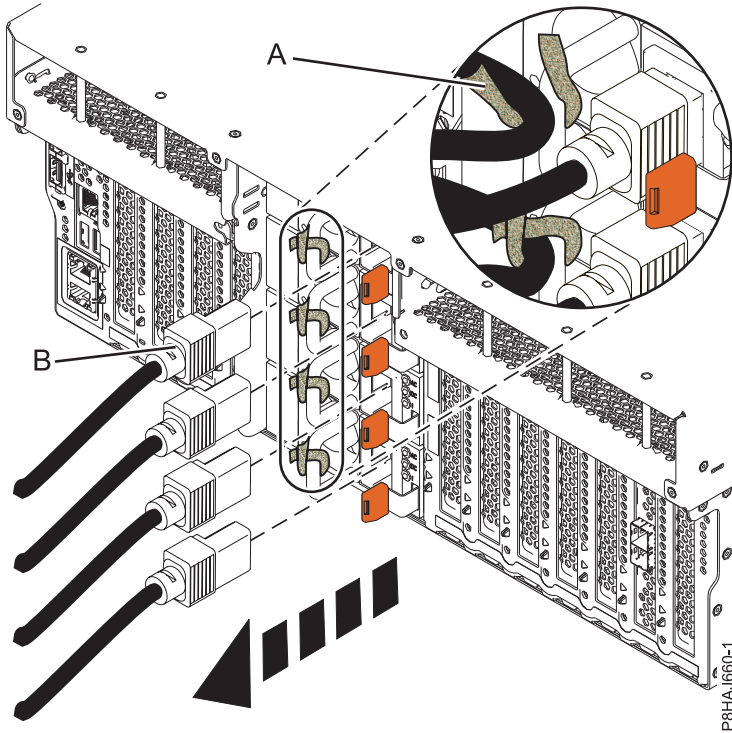
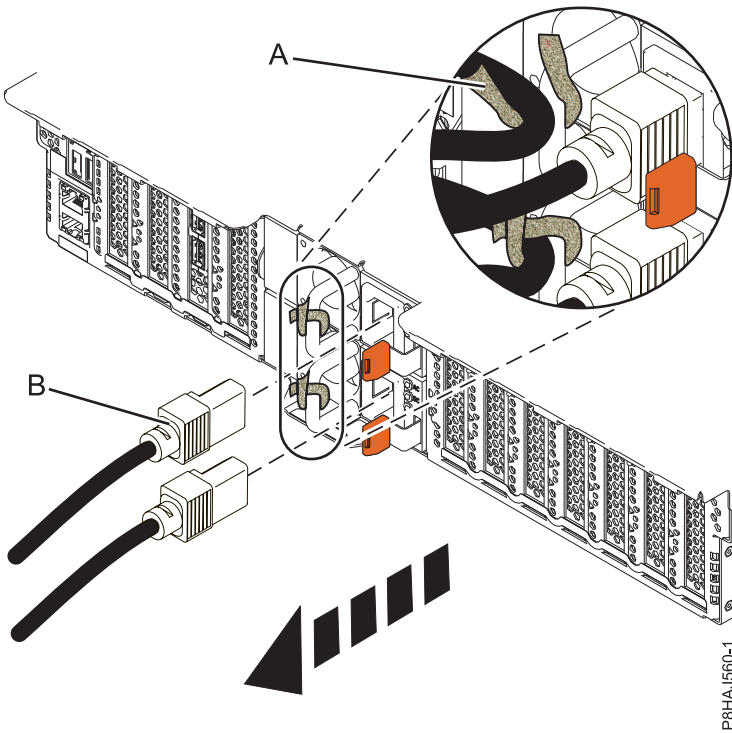
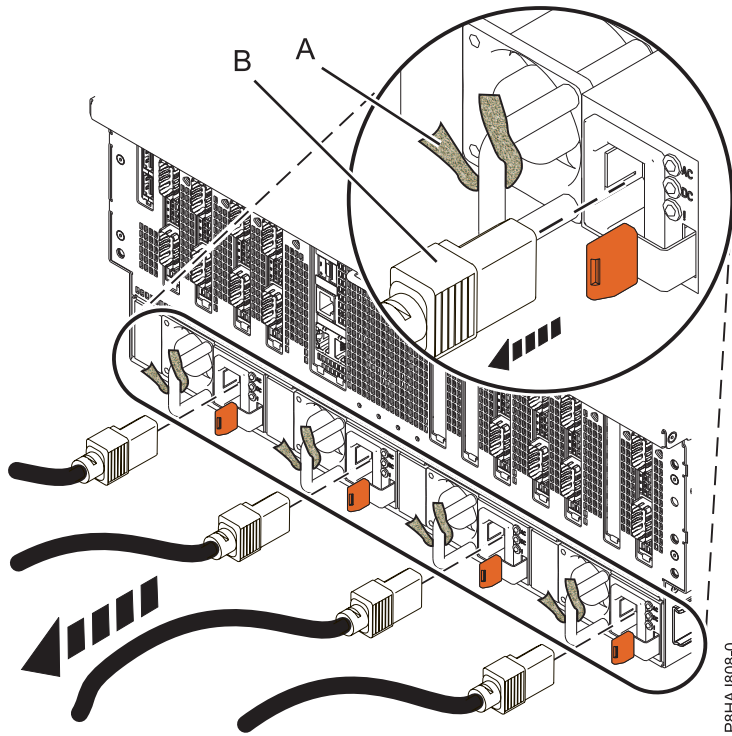

Figure 77. Removing the power cords from an 8247-42L, 8286-41A, or 8286-42A system
Figure 78. Removing the power cords from an 5148-21L, 5148-22L, 8247-21L, 8247-22L, 8284-21A, or 8284-22A system
Figure 79. Removing the power cords from an 8408-44E or 8408-E8E system
3. Disconnect the power cords (**B**) from the system unit. See Figure 77 on page 100, Figure 78 on page 100, or Figure 79 on page 101 or depending on the type of your system.